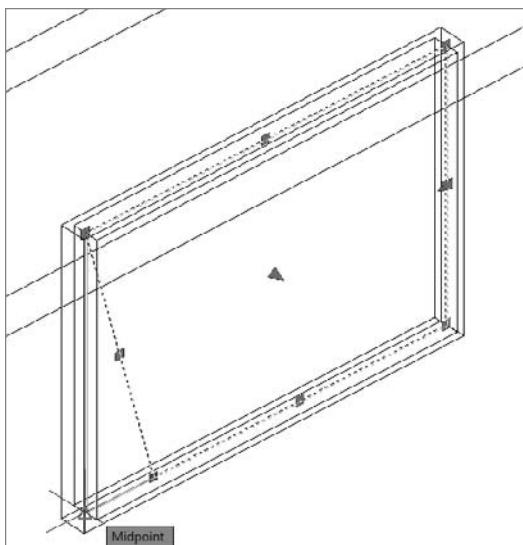

FIGURE 16.41 Adjusting the size of the window glazing
8. Select the glazing, and then select each of the two exposed endpoints. Use the Midpoint osnap to extend them to the new frame size (see Figure 16.41).